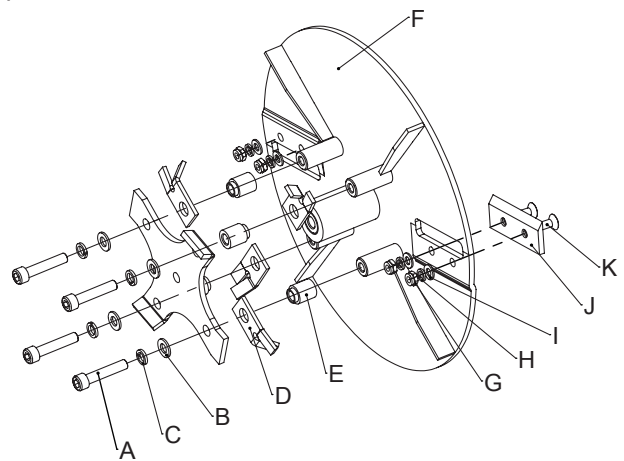

Figure 10
4. Note the assembly sequence of the hardware used to secure the hammers. Using an allen wrench remove the socket head cap screw (A) and related hardware. SEE FIGURE 10
5. Inspect the hammers (D), spacer tubes (E), and hardware. If the spacer tube (E) shows signs of wear, replace it. Inspect and flip, or replace the hammers (D).
6. Reassemble the hammers, spacers, washers, and cap screws. Torque the socket head cap screws (A) back tightly